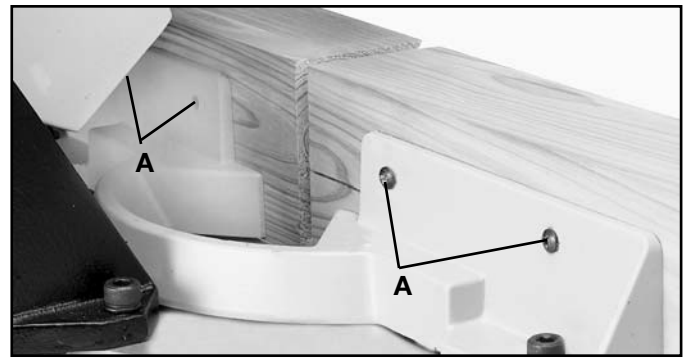

Fig. 40
5. Fasten the filler blocks to the fence using wood screws (A) through the two holes provided on each fence half, as shown in Fig. 40. This enables you to easily remove the filler blocks when not in use and quickly reassemble them to the fence when needed.